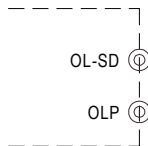

Fig. 5.1 Remove the CN3
- (1)Remove the shorting connector on CN3 that is shown in Fig 5.1, the O.L.P. mode will be "continuous constant current limiting".